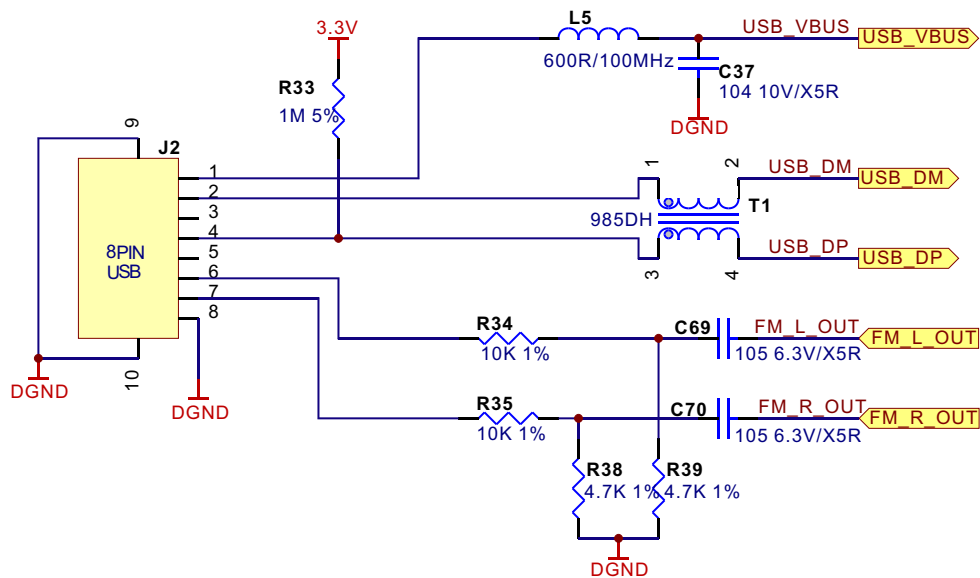

Figure 3.2.12.1 USBjack circuit diagram
1. USB jack circuit is shown in the figure 3.2.12.1: